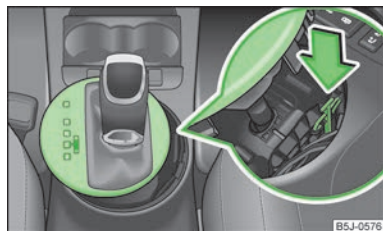

Fig. 91
- Use a finger to press the yellow plastic part in the direction of the arrow » Fig. 91.